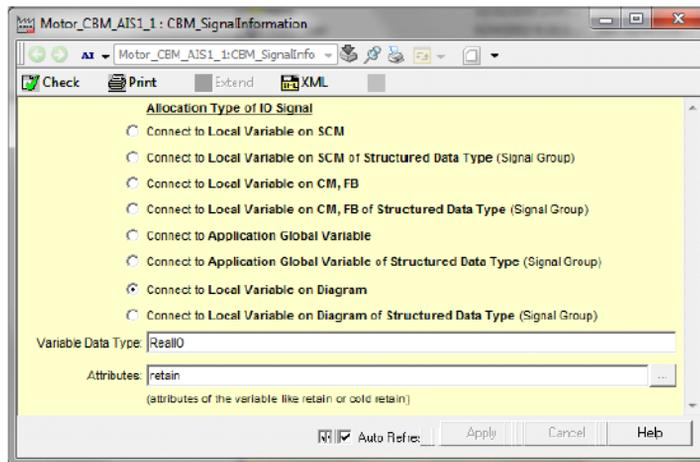

Figure 383. Signal Information
4. Add a CBM_SignalInformation aspect and configure Allocation Type of IO Signal = Connect to Local Variable on Diagram of Structured Data Type, Variable Data Type = IO_SAgitator, Attributes= retain as shown in Figure 383.